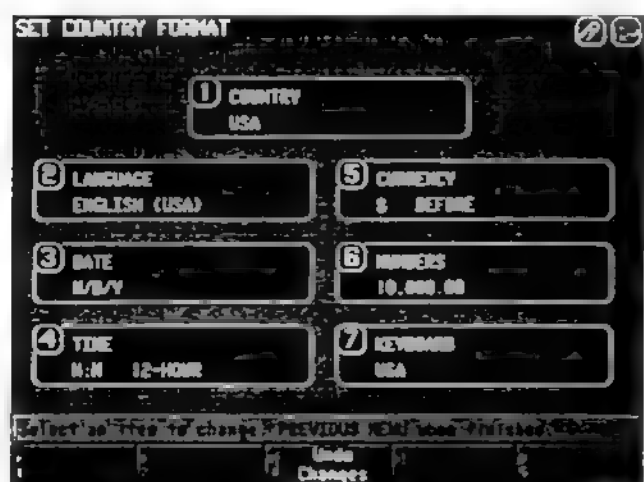

Figure 5-15
2. The "Set Country Format" screen appears (see Figure 5-15). The current settings are displayed on the screen